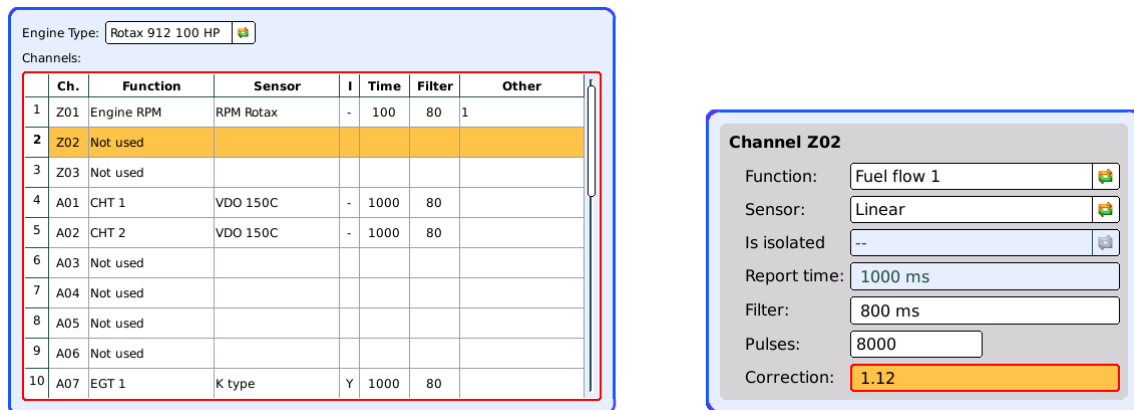

Figure 3: Nesis *Airplane Engine* menu (left), Nesis *channel configuration* dialogue (right).
Nesis *Airplane Engine* menu opens, see figure 3 (left). Select the correct engine for your aircraft by following next steps:
1. Select a channel to open configuration dialogue, see figure 3 (right).